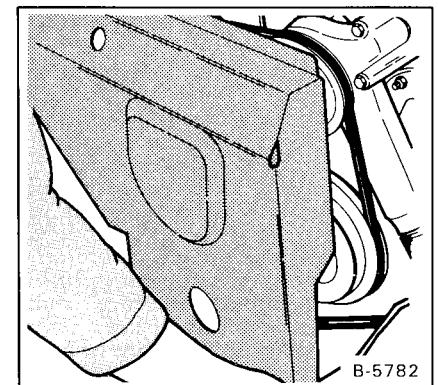

Fig. 1-24 Removing Engine Shield
- (1) Remove the belt shield (Fig. 1-24).